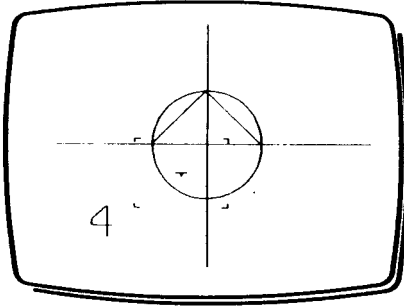

Fig 5
- 2 **Move XY and rotate Z to frame a quarter of the circle with the cursor, as (4) in Fig 5.**